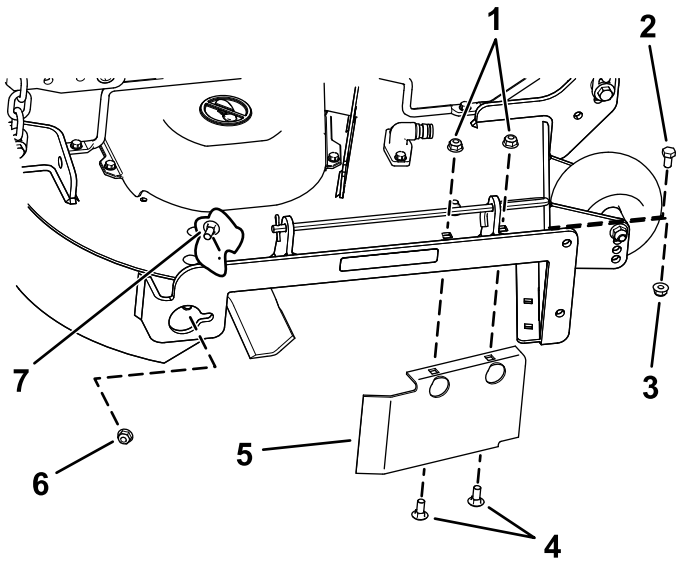

Figure 33
8. Remove the carriage bolt (5/16 x 3/4 inch) and locknut (5/16 inch) on the rear wall of the mower deck securing the baffle to the deck (Figure 33).
9. Locate the baffle guard at the front edge of the side discharge opening (Figure 33).
10. Remove the fasteners securing the baffle guard and the right baffle to the mower deck (Figure 33).
13. Install the fasteners removed previously at the front holes in the discharge plate and forward hole in the deck (Figure 33).